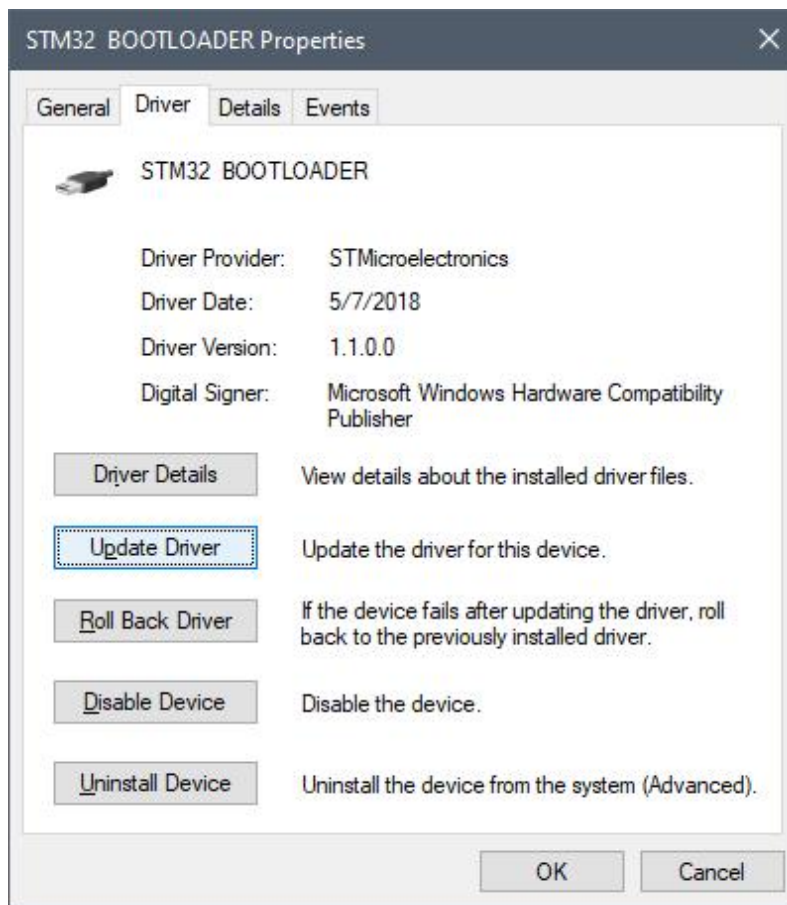

Figure 29: *Driver options tab.*
5. Select "Properties" to open the properties dialog and navigate to the "Driver" tab shown in Figure 29.